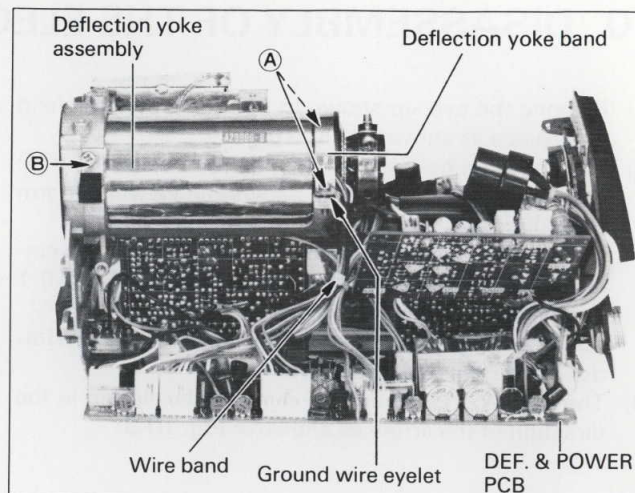

Fig. 9-15 Removal of the deflection yoke assembly (1)
- (4) Remove three screws, two screws **(A)** fixing the deflection yoke band and screw **(B)** fixing the deflection yoke shown in **Fig. 9-15**.
- (5) Cut the wire band shown in **Fig. 9-15** and remove connectors **(M)** and **(K)** on **DEF. & POWER PCB**. (Wire band Part No.: A39808-2)